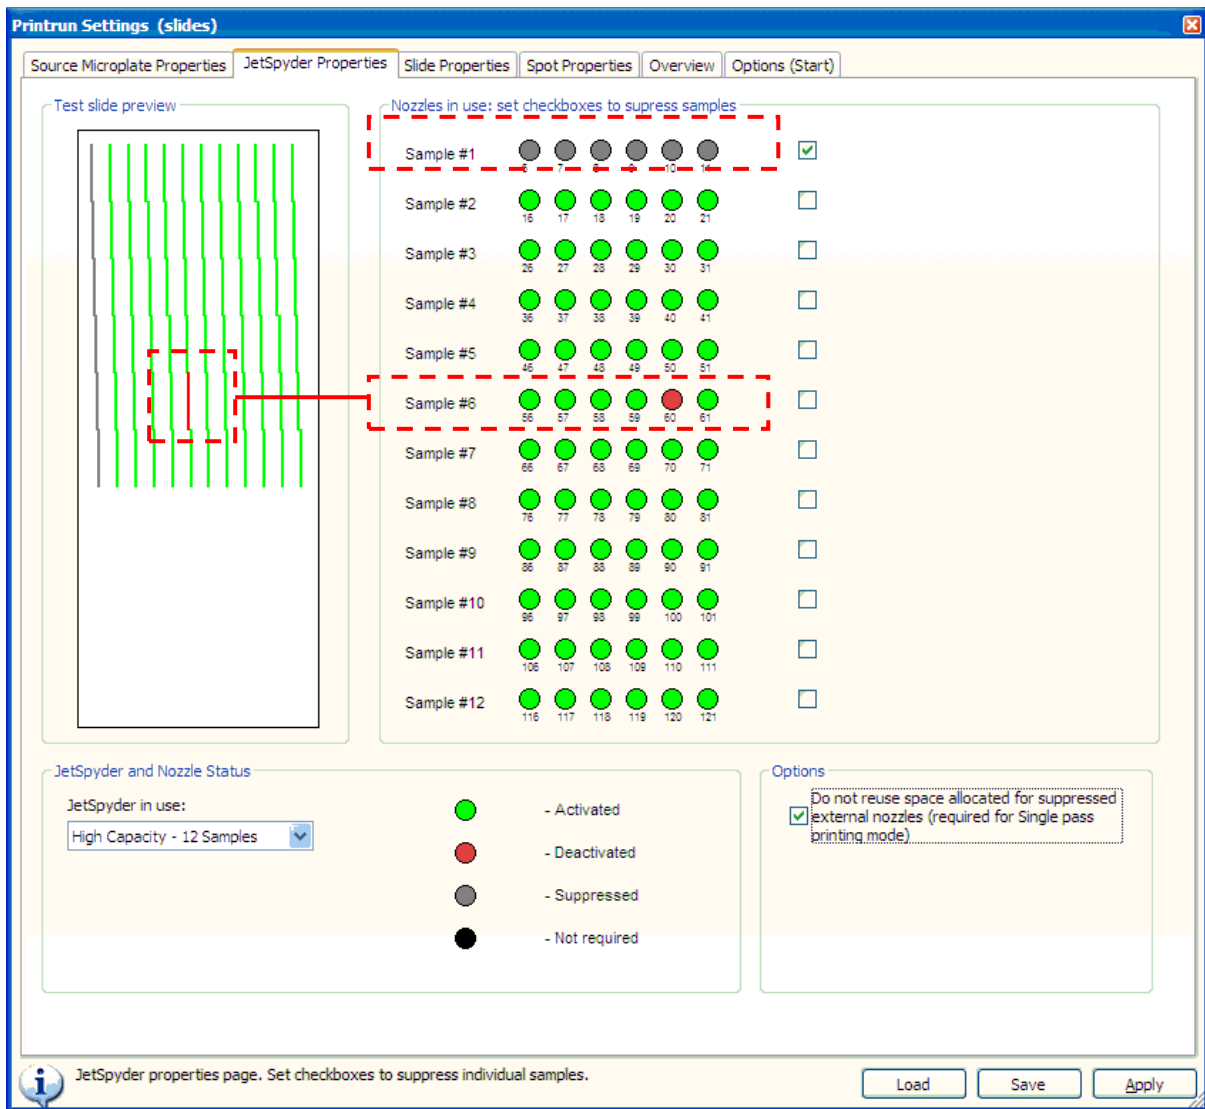

Figure 6-10 JetSpyder Properties tab - Test slide preview with nozzle #60 turned off; Sample #1 suppressed.
- By selecting the appropriate area on the **Test Slide** preview or selecting the nozzle number in the **Nozzles in use** section, within the **JetSpyder Properties** tab, deactivate any nozzles which are not performing well (**Figure 6-10**);